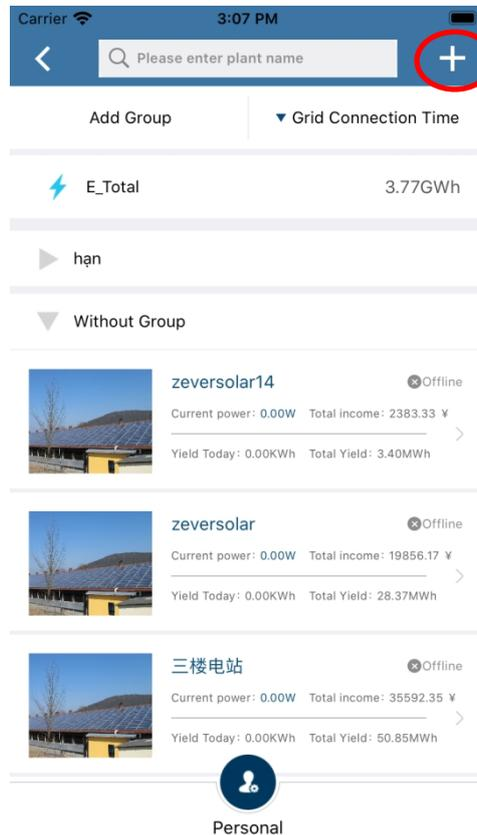

Figure 2-2-1 Power station list page
**Step 2:** After successful login, you will enter the photovoltaic power station list page, as shown in Figure 2-2-1 (Note: If you have not previously created or shared a power station, the power station list will be empty).
**Step 3:** Click the "+" button marked in red in the upper right corner of Figure 2-2-1 to enter the photovoltaic power station creation page, as shown in Figure 2-2-2.